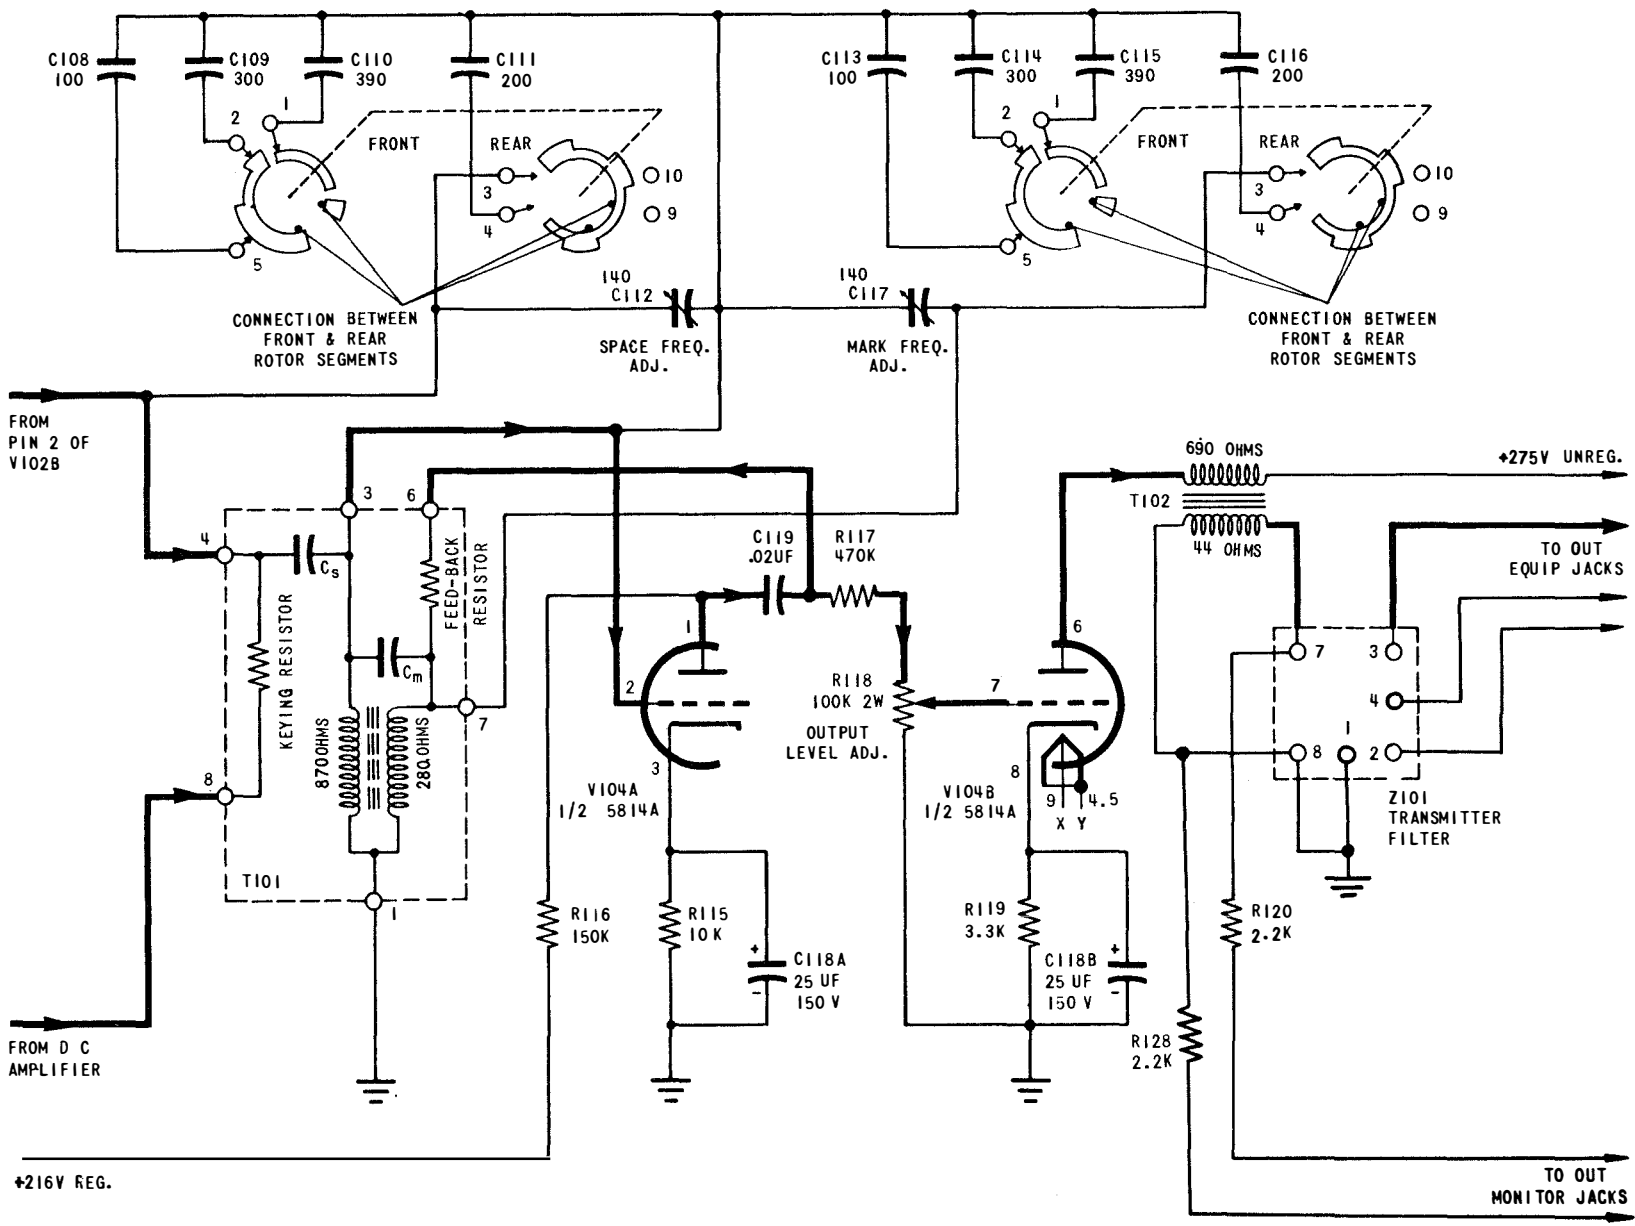

Figure 2-6. Schematic Diagram of Carrier Oscillator and Output Circuits
- Figure 2-6 shows a schematic diagram of the carrier oscillator and output circuit. The MARK and SPACE pulses on the clamping diode V102B control the frequency of the oscillator by disconnecting and adding a capacitor C_S to the tuned LC of the oscillator. Under a MARK signal the SPACE capacitor C_S of the audio-frequency transformer T101 is electrically disconnected from the tuned oscillator circuit by the high impedance of the diode. Under SPACE signal the capacitor C_S is grounded through the diode and appears across a portion of the coil. With a MARK signal applied to the loop the value of the MARK tuning capacitor C_m is trimmed with fine and coarse MARK FREQ ADJ controls (C117 and S106 with C113, C114, C115, and C116) for oscillation at the MARK frequency. With a SPACE signal applied to the loop the SPACE capacitor C_S is trimmed with fine and coarse SPACE FREQ ADJ controls (C112 and S105 with C108, C109, C110, and C111) for oscillation at the SPACE frequency. At all times the MARK frequency must be set correctly before adjusting the SPACE frequency. A Hartley oscillator is used and consists of one-half of a 5814A type tube V104A with self-bias by means of R115 and C118A. Through the 0.02 mf capacitor C119 the signal is coupled to the voltage dividing network R117 and R118 (OUTPUT LEVEL ADJ potentiometer) and to the audio amplifier